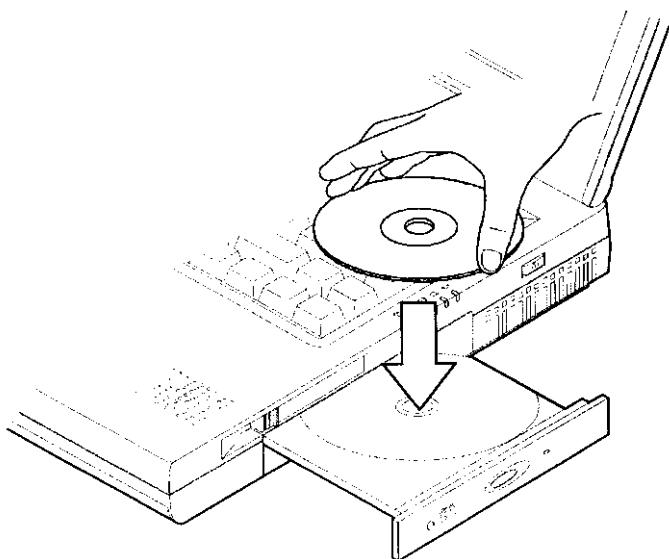

Figure 2-17
4. Carefully load the CD into the disc tray with label-side facing up. Press it gently to ensure it fits into the place (Figure 2-17).